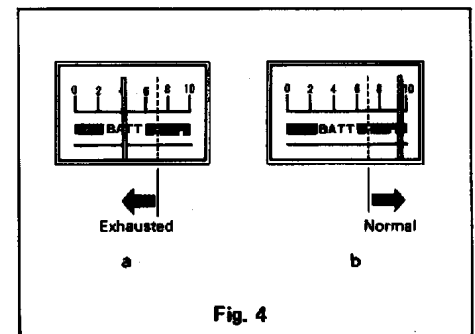

Fig. 4
3. When the meter indication is as shown in Fig. 4 (a), it means that the batteries are weak. Replace all the batteries. In the case of Ni-Cd cells, recharge the cells according to the instructions on page 8.